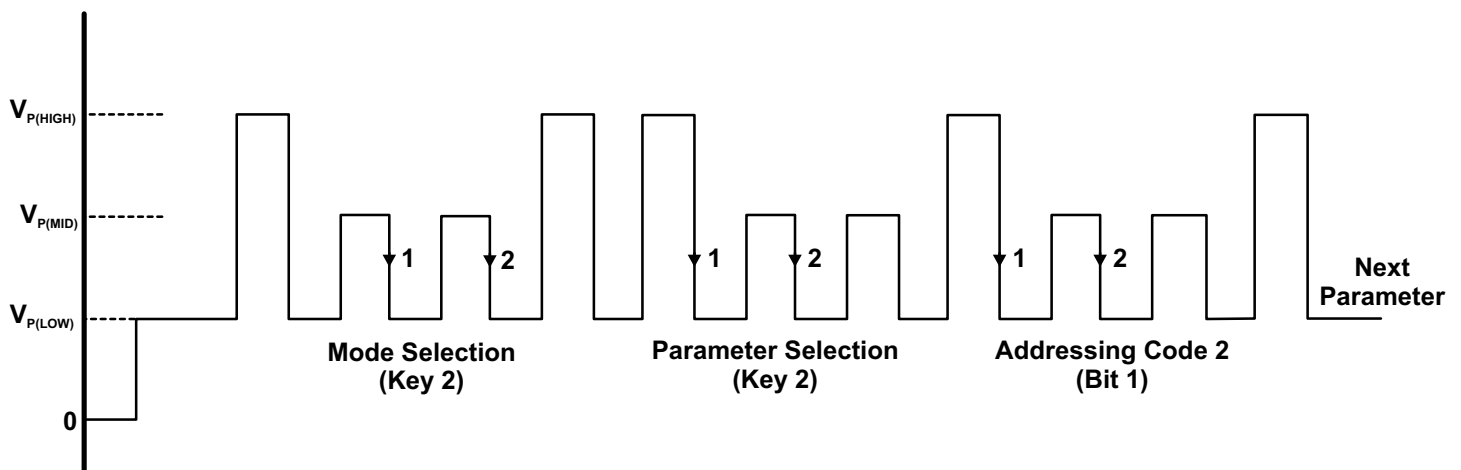

Figure 10: Example of Try Mode Programming Pulses Applied to the VOUT Pin.
After powering the V_{CC} supply, select mode key 1, the desired parameter register, and address its bit field. When addressing the bit field, each V_{PM} pulse increments the value of the parameter register up to the maximum possible code (see Programming Logic section). The addressed parameter value will be stored in the device even after the programming drive voltage is removed from the VOUT pin, allowing its value to be measured. To test an additional programmable parameter in conjunction with the original, enter an additional V_{PH} pulse on the VOUT pin to re-enter the parameter selection field. Select a different parameter register, and address its bit field without any supply interruptions. Both parameter values will be stored and can be measured after removing the programming drive voltage. Multiple programming combinations can be tested to achieve optimal application accuracy. See Figure 10 for an example of the Try mode pulse train.